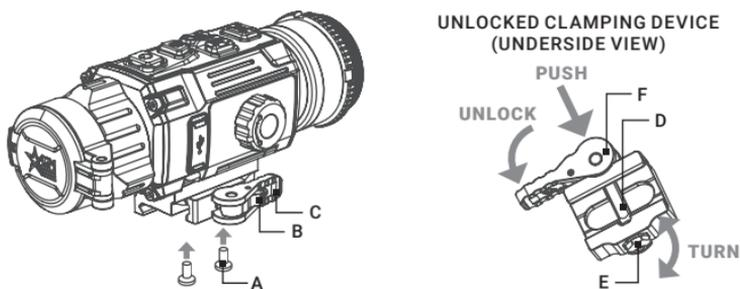

FIGURE 2-8. MOUNT
A Picatinny/Weaver mount is secured to the Rattler-C V² with two screws (Fig. 2-8, A). The recommended tightening torque for the fixing screws is 4-5.3 Nm (5.44-7.2 ft lb).
1. Unlock the clamping device of the clip-on mount by pushing down on the lever holder (Fig. 2-8, B) and unlocking the lever (C).
2. Install the clip-on on the Picatinny/ Weaver rail so that the stop (D) slides into the transverse slot on the rail.
3. Affix the clip-on to the rail by locking the lever (C).
2. With the clamping device unlocked (as shown in Figure 2-8), push the cam (F) towards the arrow, which will cause the nut (E) to slide out of its hole.
3. To tighten/ loosen the clamping device, push down on the cam (F) and turn the nut (E) CW/ CCW respectively, in one-two increments (see note below). Much like when the cam (F) is released, backward-moving spring will cause the nut (E) to slide back into its hole.